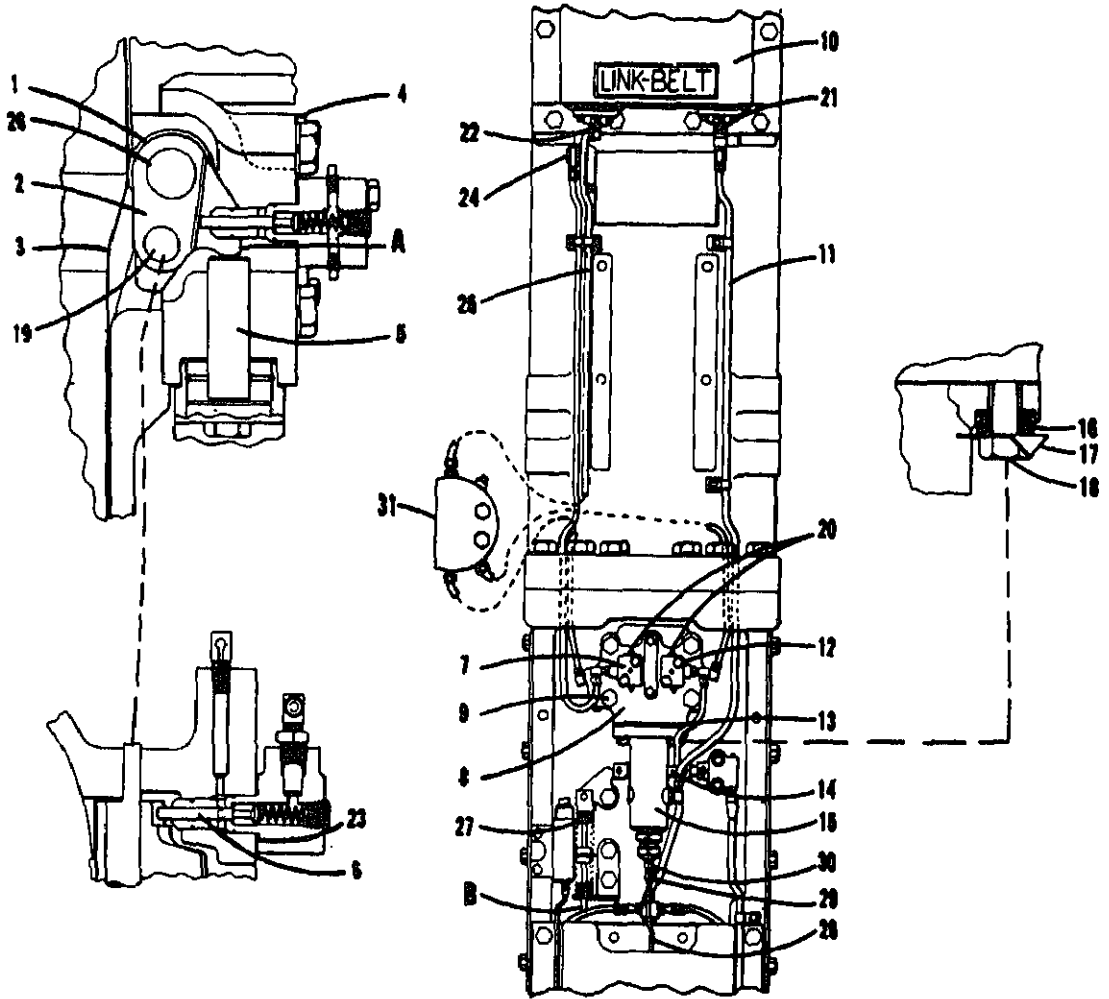
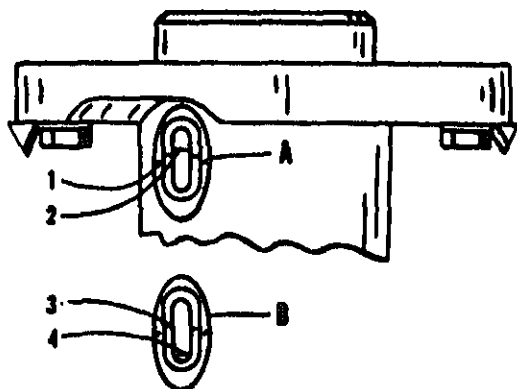

FIG. 11-10
FIG. 11-11
The fuel injection pump Fig. 11-10, is supplied with fuel oil, gravity fed through a hose from the fuel tank to the entrance located on the side of the pump.
- Advance throttle to "on" position, lock rack return spring rod in compressed position (see "B" Fig. 11-10) with nail or piece of wire and return throttle to "off" position. Remove and plug fuel and lube oil inlet and outlet lines. Remove fuel and lube pumps from pump drive housing.
The fuel pump timing window is located left of-center and just below the pump mounting flange. Using a screwdriver, remove the screws, cover, and gasket to expose the timing marks as shown in Fig. 11-11. The following procedure may be used to check or retune the pump.
- (1) INDEX MARKS ON WINDOW
- (2) TIMING MARK
- (3) INDEX MARKS
- (4) TIMING MARK
- (a) Lift the entire Hammer clear of piling, anvil in the down position, and tip the Hammer forward slightly, toward the fuel pump. This assures that the weight of the ram is against the cam roller, Fig. 11-11, forcing the tappet to the lowest position it goes during operation.
- (b) The relative position of the timing marks should appear somewhat as pictured in Detail (B) of Fig. 11-11. Timing mark should be at least $1/32$ " above the bottom of the window to prevent possible bottoming of the internal parts of the pump.
THE TIMING MARK FIG. 11-11, SHOULD NEVER BE ALLOWED TO LEAVE THE WINDOW EITHER DURING HAMMER OPERATION OR WHILE CHECKING TIMING.
When installing a new pump, leave capscrews Fig. 11-10, loose so that the timing mark never leaves the window; tighten to position timing mark and determine shims required to obtain as close to $1/32$ " as possible. Insert shims and tighten per recommended torque. Check this dimension again.
- (c) Set the Hammer on a piling, or driving head, latch in and raise the ram about 17". At this time the timing marks will appear as in Detail (A), Fig. 11-11. Timing mark (2) should be a minimum of $1/32$ " above index mark (1). Loosen capscrews Fig. 11-10, and determine number of shims needed to obtain this dimension and in no case should timing mark (2), Fig. 11-11, be more than $3/32$ " above index mark (1).
Satisfactory operation of the fuel pump depends upon proper care and maintenance of its precision parts. Above all, the working parts of the pump must be kept dirt free. Weekly inspect the control rack Fig. 11-10, for possible dirt accumulation and clean with a brush and fuel oil to prevent excessive wear of rack and mating gears. When assembling pump on the housing, carefully wipe all dirt from the mounting surfaces to insure square seating of the pump. Use a lint free wiping cloth for this purpose. Never use waste.
WHENEVER IT IS NECESSARY TO REMOVE HIGH-PRESSURE LINE, THE BRONZE NUT FIG. 11-10, SHOULD BE LOOSENED FIRST AND THEN THE STEEL NUT CAN BE REMOVED FROM THE MALE FITTING.
- (c) Straighten lockplate Fig. 11-10, and remove capscrews which hold pump in place.
- (d) Advance throttle to full on, pin return spring rod in compressed position (See "B" Fig. 11-10) with piece of wire or nail and return throttle to "off" position.
- (b) Install capscrews with six spring washers beneath each capscrew. Spring washers have to be installed as shown in Fig. 11-10, with first two convex side out, the next two concave side out, and the last two convex side out.
- (f) Remove cover plate Fig. 11-10, from housing which contains the pump operating bell crank.